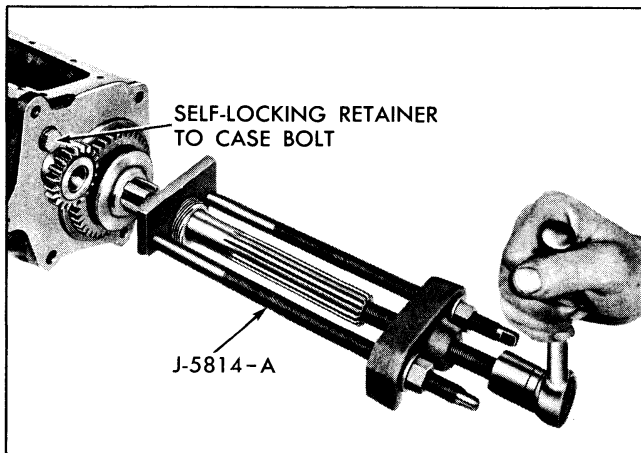

Fig. 7B-12 Removal of Speedometer Drive Gear
15. From the front of the case, tap out the countershaft, using loader J-5589, as shown in Fig. 7B-15. Remove the countergear and both tanged washers. Remove loader J-5589 from countergear.
16. Remove the 80 rollers, six .050" spacers and roller spacer from countergear (Fig. 7B-16).